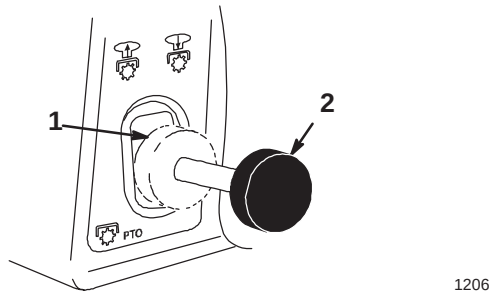

Figure 6
2. Pull the power take off (PTO) to **on** (Fig. 6).
2. Push the power take off (PTO) to **off** (Fig. 6).